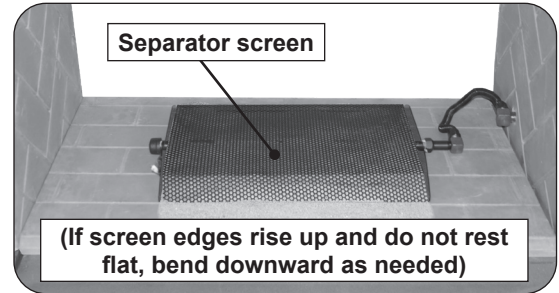
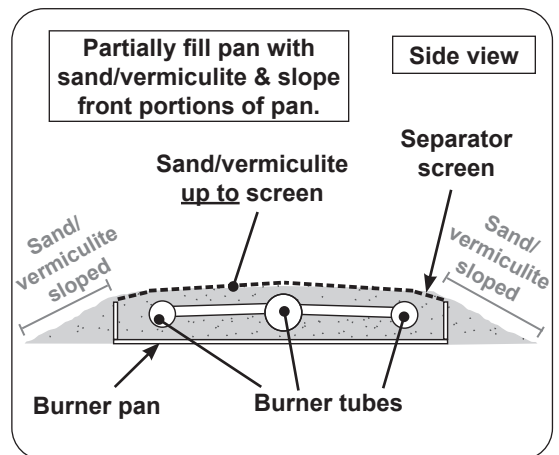

Fig. 12-2 Place screen
Fig. 12-3 Sand/vermiculite & screen detail
- Slope the sand/vermiculite in the front portions of the pan (see Fig. 12-3).
- Place the separator screen over the sand/vermiculite and pan. The screen edges will rest just over the edges of the burner pan as shown in Fig. 12-2 and Fig. 12-3. If the screen edges rise up from the floor of the pan, bend them downward as needed.
- Once the screen is in place add or remove sand/vermiculite until it rests at the level right below the screen (see Fig. 12-3). **DO NOT** underfill or overfill.